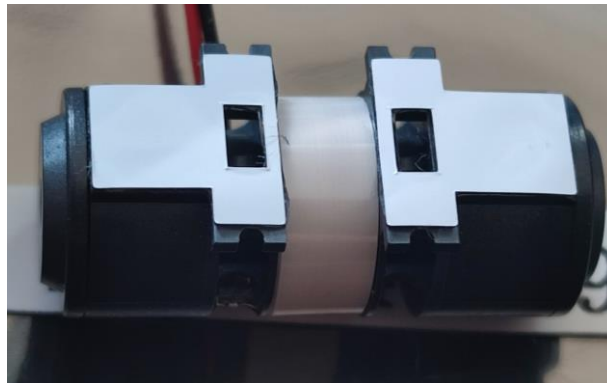

Figure 36. White tape shown on the underside of HF and LF actuators
2. Remove the white double-sided tape from the underside of the actuator as shown in Figure 36.